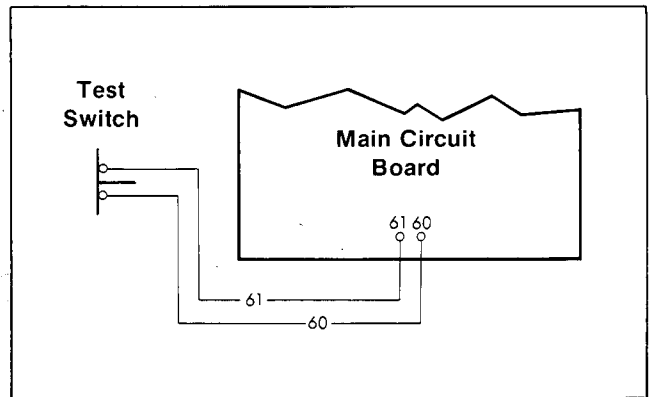

Figure 12. Maintained Test Switch Connections
- **Test**—Simulates a normal source failure, for as long as the switch is held or left in the "Test position. See Figure 12 for connections.